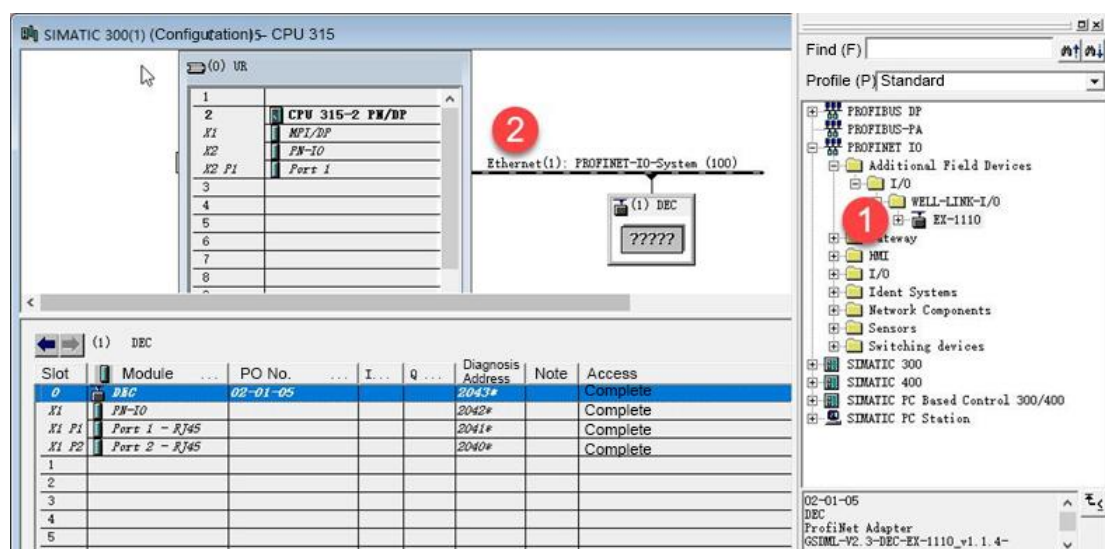

Figure 5-2-26 Adding IO to an Ethernet (1) subnet
On Ethernet (1), configure the I/O device station. On the right, select EX-1110 and drag it under the Ethernet (1) subnet, as shown in Figure 5-2-26.